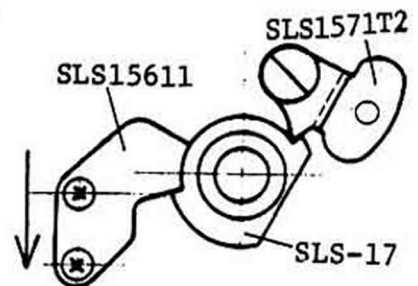

Fig. 82
- 1) Install the SLS-17 Position gauge to the SLS15561 Shaft as shown in Fig. 82.